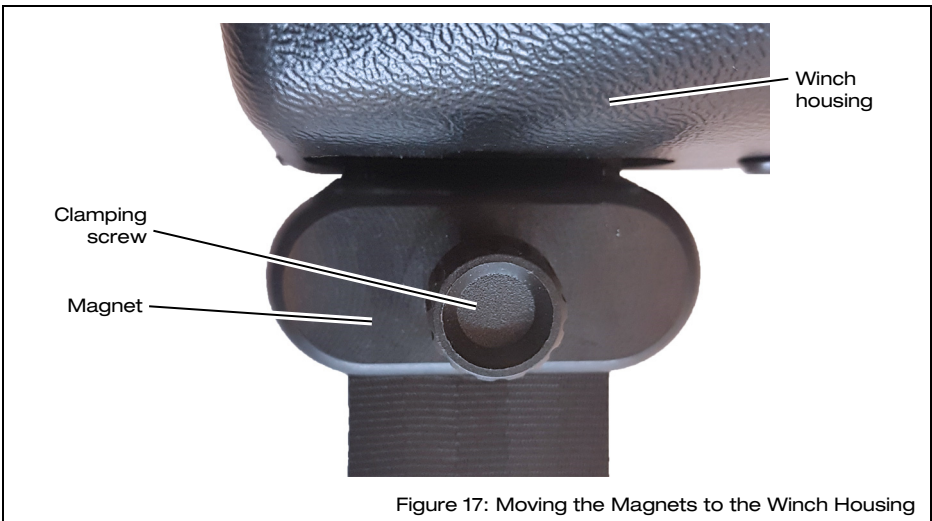

Figure 17: Moving the Magnets to the Winch Housing
- ⇒ Adjust the magnets, such that they make contact with the winch housing (see Figure 17).